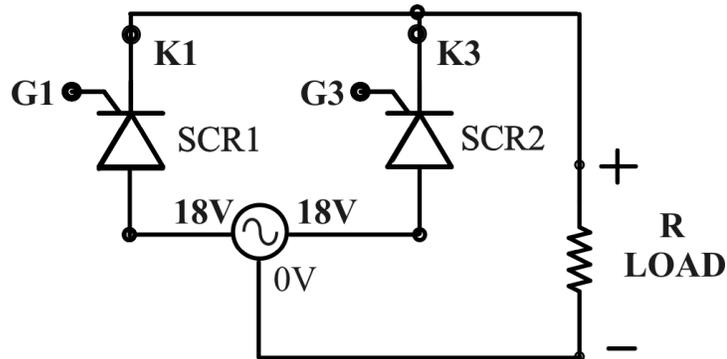

Figure 7
The circuit diagram of basic full wave controlled rectifier (mid- point configuration) is shown in the below figure 7
- 5. Connect the circuit of full wave controlled rectifier (mid-point configuration) as shown in figure 7 using 2 mm patch cords.
- 8. Vary the firing control Potentiometer and set on  $30^\circ$ ,  $60^\circ$ ,  $90^\circ$ ,  $120^\circ$  and  $150^\circ$  firing angles using equation (11).